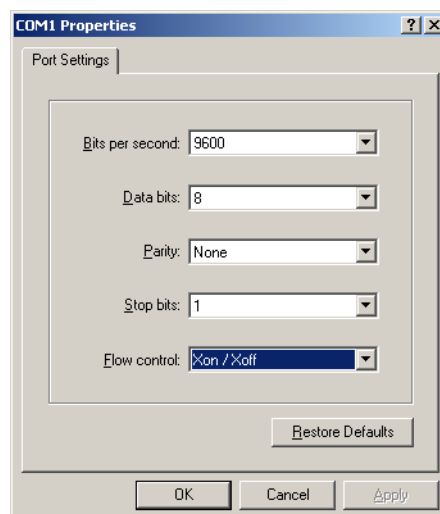

Figure 8-17 Port Settings adjustment completed
- 5.) Verify that the terminal settings are as indicated in Table 8-10 "Hyper Terminal Settings" on page 8-34 and in Figure 8-17 "Port Settings adjustment completed" on page 8-35.